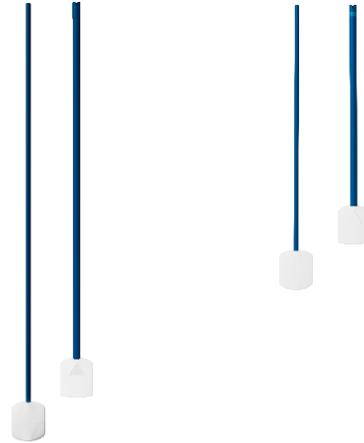

Figure 2. 18 Fr. Insertion Tool - Advancer and Sheath (male-left; female-right)
- The Insertion Tool (Figure 2) is used to insert the Sensor in the patient's bladder.